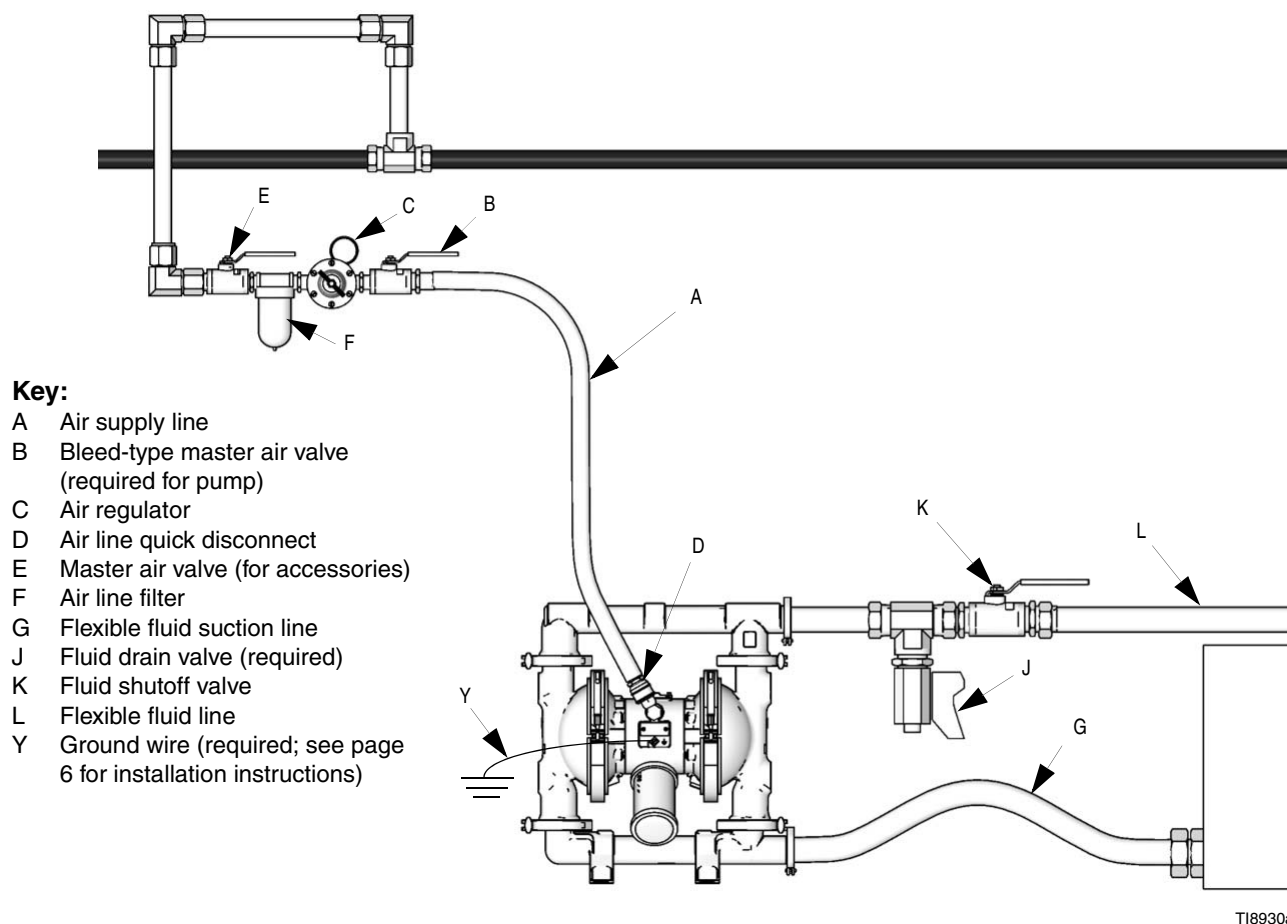

FIG. 2 Typical Floor-Mount Installation
<p>A bleed-type master air valve (B) is required in the system to relieve air trapped between this valve and the pump. Trapped air can cause the pump to cycle unexpectedly, which could result in serious injury, including splashing in the eyes or on the skin, injury from moving parts, or contamination from hazardous fluids. See FIG. 2.</p>
1. Install the air line accessories as shown in FIG. 2. Mount these accessories on the wall or on a bracket. Be sure the air line supplying the accessories is grounded.
- a. Install an air regulator (C) and gauge to control the fluid pressure. The fluid outlet pressure will be the same as the setting of the air regulator.
- b. Locate one bleed-type master air valve (B) close to the pump and use it to relieve trapped air. See the **WARNING** above. Locate the other master air valve (E) upstream from all air line accessories and use it to isolate them during cleaning and repair.
- c. The air line filter (F) removes harmful dirt and moisture from the compressed air supply.
A fluid drain valve (J) is required to relieve pressure in the hose if it is plugged. The drain valve reduces the risk of serious injury, including splashing in the eyes or on the skin, or contamination from hazardous fluids when relieving pressure. Install the valve close to the pump fluid outlet. See FIG. 2.
1. Use flexible grounded fluid hoses (L).
3. Install a fluid drain valve (J) near the fluid outlet. See the **WARNING** above, and FIG. 2.
4. Install a shutoff valve (K) in the fluid outlet line.